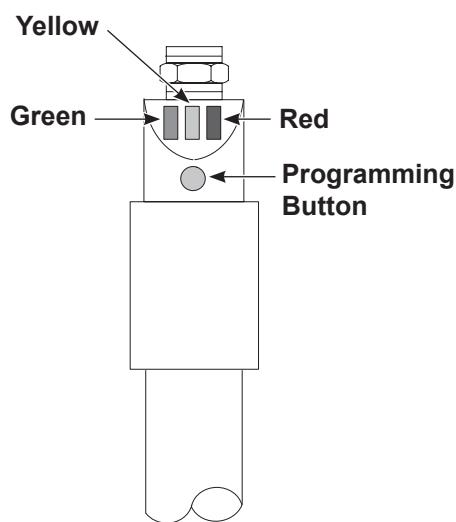

Figure 4-2 Programming the One Button Level Sensor Probe
3. See Figure 4-2. Press the programming button until the green LED flashes slowly, then release it. When the green LED stops flashing and the yellow LED turns off, the level sensor is programmed for Empty.
2. See Figure 4-2. Press the programming button until the green LED flashes quickly, then release the button.